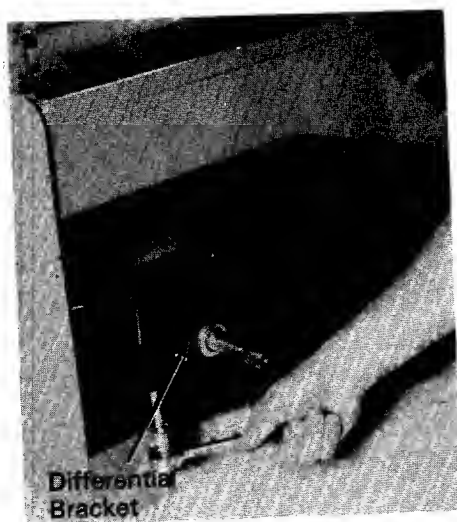

FIGURE 34.
1. To tighten the chain, loosen the two nuts on each side of the frame holding the differential bracket to the frame. See figure 34.